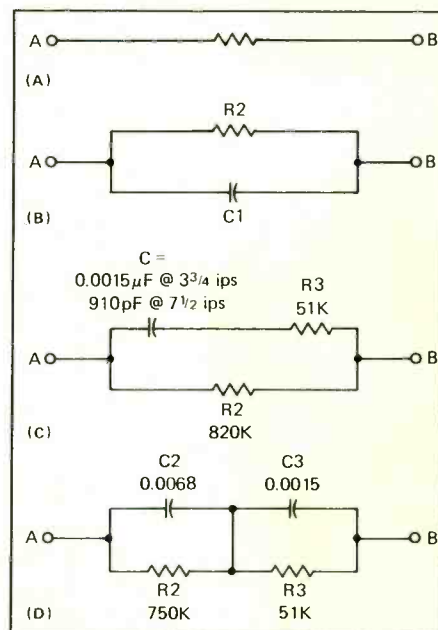

Fig. 4. Feedback networks commonly used in op amp circuits.
Several popular variations of the feedback network that find application in audio preamplifiers are shown in Fig. 4. Figure 4A is a wide-band amplifier that has a frequency response with no tailoring except by the natural bandwidth of the amplifier. The approximate available bandwidth for this circuit is calculated from the gain-bandwidth product (F_t) of the device, which is the frequency at which gain drops to unity (1). The formula is $F_t = \text{gain} \times \text{bandwidth}$.
Remaining feedback networks in Fig. 4 are used in special preamplifiers. That in Fig. 4C is used for NAB-compensated tape preamplifiers, Fig. 4D for RIAA-compensated phonograph preamplifiers.